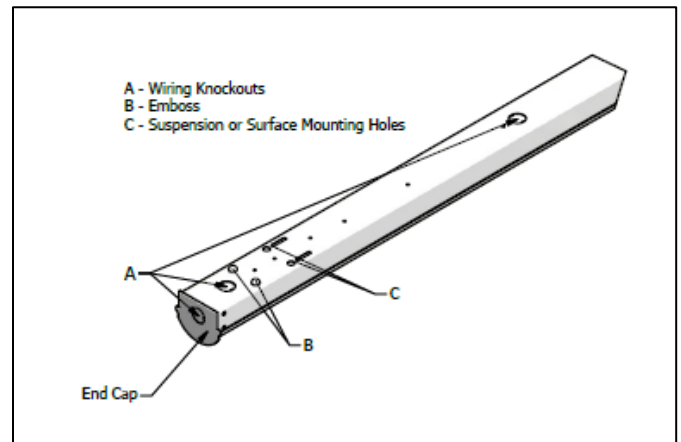

Figure 4
6. Attach the main luminaire body to the ceiling using mounting holes represented by symbol C in Figure 4. These holes can also be used for suspension mounting. Symbol B in Figure 4 shows the embosses for surface mounting.